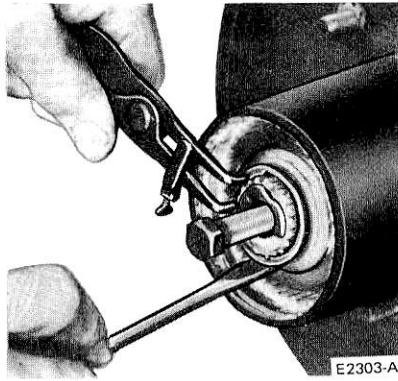

FIG. 11 Installing Axle Shaft Snap Ring
5. Install the axle shaft snap ring. Push inward on gear, and if necessary, pull out axle shaft with bolt to allow clearance in groove for snap ring on the axle shaft. Be sure snap ring is fully seated in the snap ring groove of the shaft (Fig. 11).